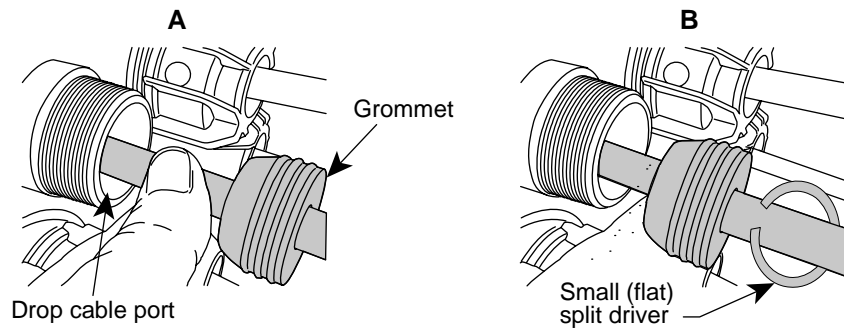

Figure 10
2. Feed the prepared drop cable through the selected grommet and the cable port up to the point where the cable butt is inside and clear of the endcap (Figure 10-A).
3. Select the small split driver for drop ports (Figure 10-B), then fit the split driver over the cable and position against the grommet at the drop port entrance locations.